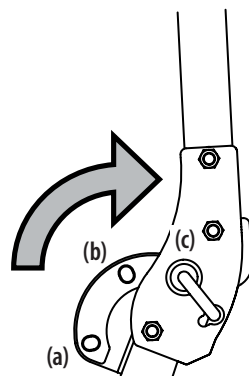

Figure 2-4
- When both locking pins are secured in the ADJUSTMENT position, slowly lift and rotate the upper ROPS from the TRANSPORT (a) position, past the TRANSPORT WITH BAGGER (b) position and into the OPERATION (c) position. See Figure 2-4.